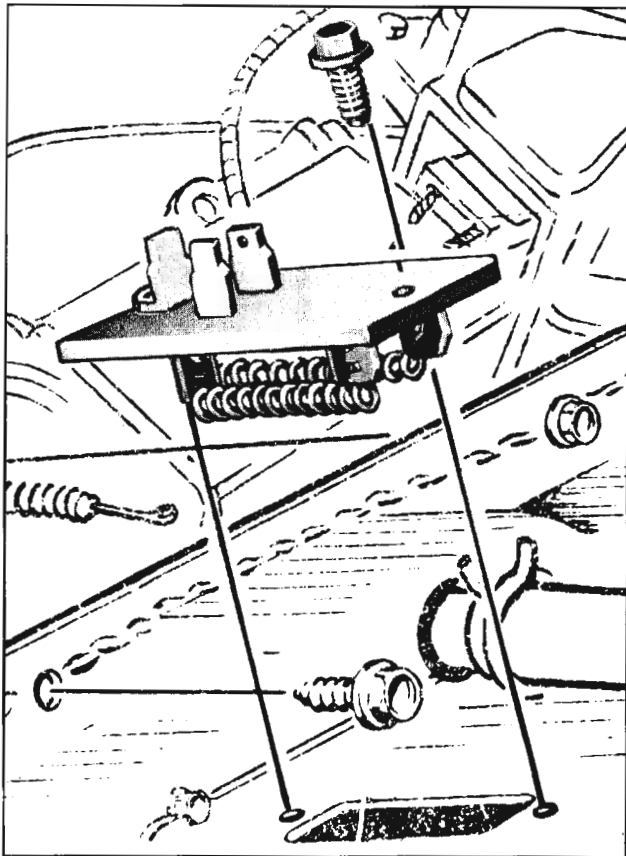

Fig. 15-111 Heater Resistor Installation
1. Position resistor on air valve assembly as shown in Fig. 15-111 and retain with two attaching screws. Connect harness.